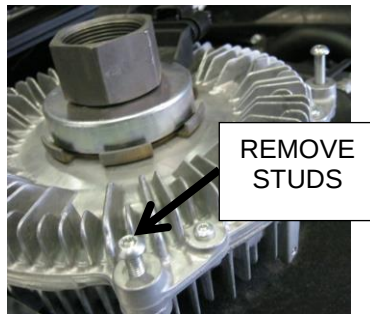

Figure 2.7
- ☐ Remove (4X) studs (Torx drive) from fan clutch (Figure 2.7). Discard studs.